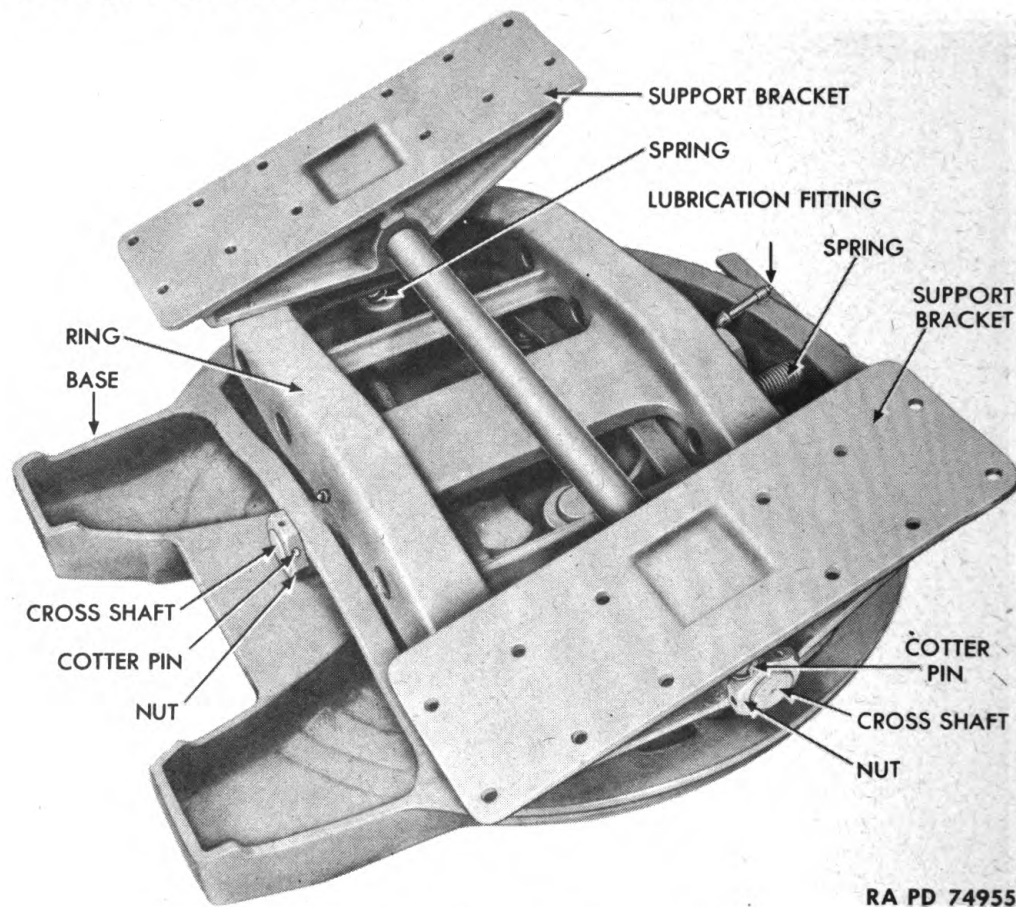

Figure 51 — Fifth Wheel Assembly
74. DESCRIPTION AND OPERATION (fig. 51).
76. DISASSEMBLY (figs. 51 and 52).
79. ASSEMBLY (figs. 51 and 52).
80. TEST AND ADJUSTMENT (fig. 51).